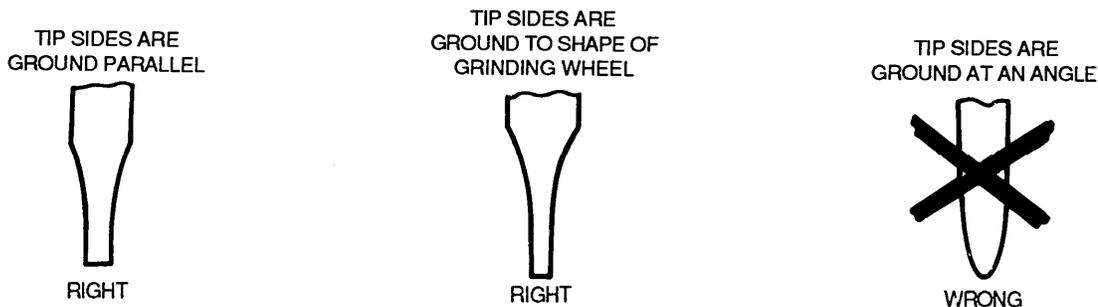

Figure 4-19. Screwdriver Tip Grinding
(1) **Common screwdrivers.** When grinding common screwdrivers, the tip should be squared and the sides parallel, as shown in figure 4-19.